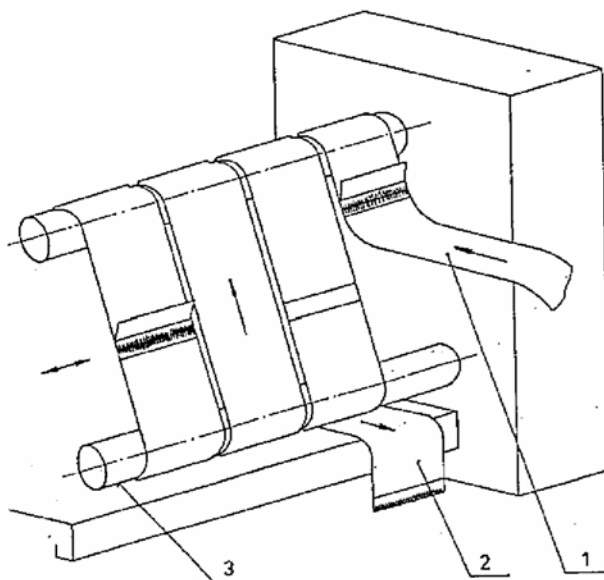

Fig. 5.4.C. Replacement and tightening of belts 504765
2. After lifting up the rear upper covers (fig.5.4.A, pos.4.1), remove rear panels (fig.5.4.A, pos.4) and lift off the filter cover (fig.5.4.A, pos.4.2).
3. Lift up the tightening roller of ironing belts to upper technological position (fig.5.4.A, pos.5).
4. Release the ironing belts (fig.5.4.C) and leave them loosely placed on the machine.
### CHECK OF UNSTICKER FIG. 5.3.A + FIG. 5.4.A
### REPLACEMENT OF UNSTICKER FIG. 5.3.A + FIG.5.4.A
### TIGHTENING THE IRONING BELTS (FIG.5.4.B)
### REPLACEMENT OF IRONING BELTS (FIG.5.4.C)
3. Insert the crank and turn the ironing belt (2) so that the belt connectors are accessible.
4. Lift up tightening roller of ironing belts to upper technological position (fig.5.4.A, pos.5).
5. Disconnect an old belt and connect the new belt (1) to the old one using braces.
2. Remove upper frontal cover (fig.5.4.A, pos.6), loosen or disassemble pressure springs (fig.5.5.B, pos.9).
2. Dismantle the upper frontal cover (fig.5.4.A, pos.6).
Check regularly once a day filter contamination caused by textile dust. It is necessary to remove dust from the filter to avoid decreased efficiency of ventilation. The filter sieve is accessible from the side or rear part of the machine, after the filter covers have been lifted off (fig.5.4.A, pos.4.2). After you lift off the cover, hold the filter sieve handle and take it out. Put it back after cleaning and insert it into the filter tub up to its end. Then close the filter cover.